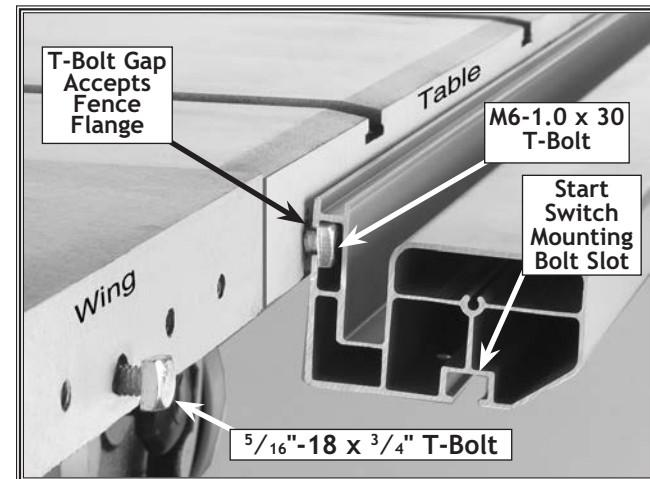

Figure 8. Front rail being slid onto T-bolts.
2. In the front and back edge of the table, insert eight M6-1.0 x 30 T-bolts (four on each side) through the larger threaded holes, and install the flat washers and nuts on each bolt. See **Figure 8**.
3. Insert two $5/16\text{-}18 \times 3/4\text{"}$ T-bolts in the right table wing, and two into the edge of the left table wing, and install the flat washers and nuts on each bolt. See **Figure 8**.
9. Insert two $5/16\text{-}18 \times 3/4\text{"}$ T-bolts into the start switch mounting slot (see **Figure 8**), and position the start switch mounting bracket to the underside of the rail, and secure it with the washers and nuts.